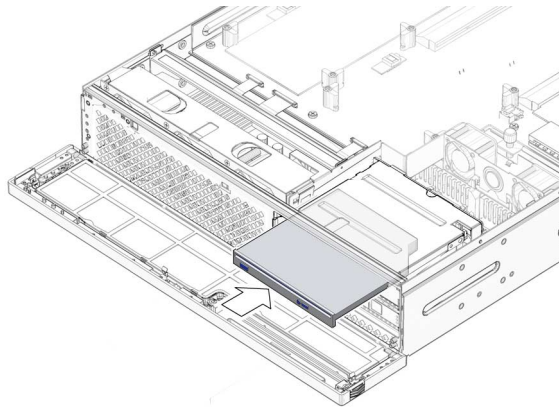

FIGURE 3-15 Inserting the DVD Drive
2. Hold the release tab to the left and insert the DVD drive into the mass storage assembly (FIGURE 3-15).